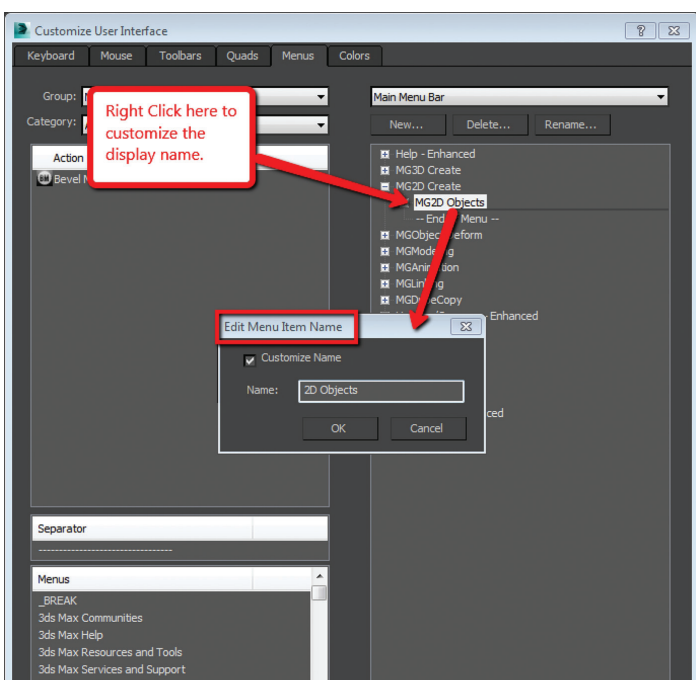

Figure 13: Custom menu names
**UI DESIGN TIP:** The actual menu name and display name can be different. I used a custom menu name behind the scenes so I could easily differentiate my menus from the ones created by default or other tool companies. After you create a menu and add it to the right column, you can right-click on it and change its display name (see Figure 13).